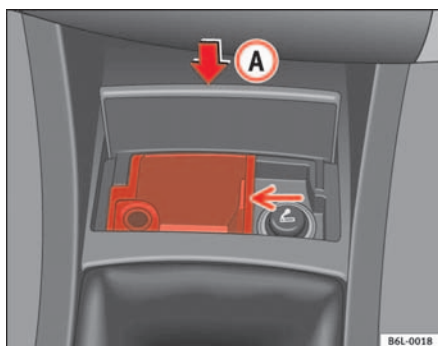

Fig. 81
- Press the lower part of the ashtray cover **A** ⇒ fig. 81 and it will open automatically with a spring action.